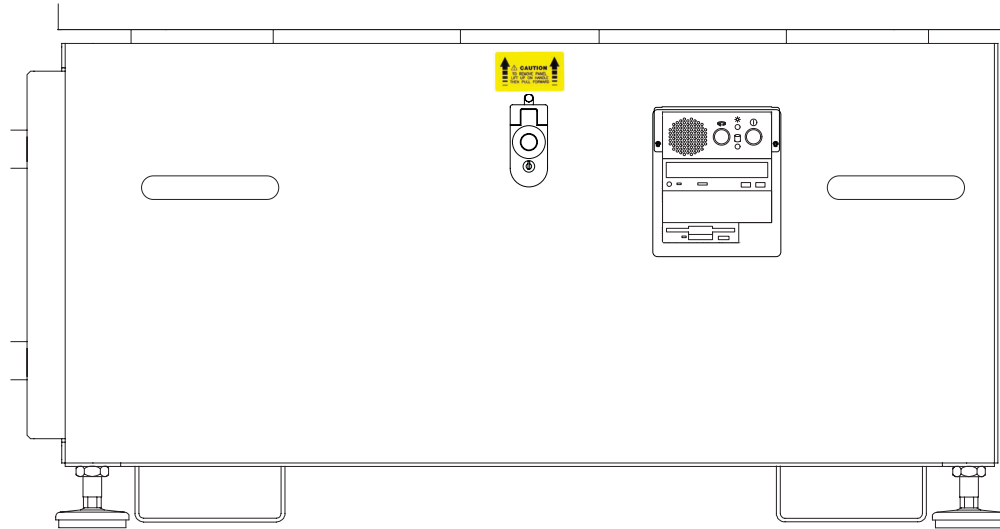

Figure 6-14 Replacing the Front Panel
1. While holding the two handles, carefully set the Lower Front Cover in place with the top touching the granite (see *Figure 6-14*).